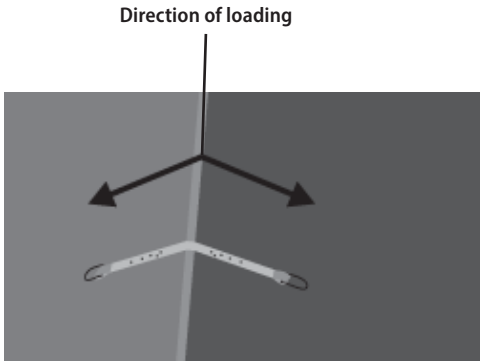

Fig. 2
- **Press down the anchor legs over the surface and alternately insert the provided nails. Refer to fig.2.**